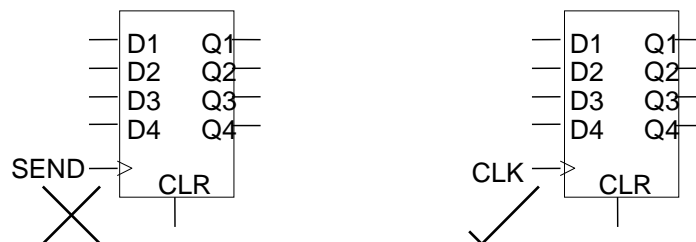

Figure 7: A clock pulse should be connected to the clock inputs of all the sequential devices.
3. Do **not** connect the inputs (DIP and push button switches) to the clock inputs of sequential devices. Clock inputs must be connected to the clock signal only (Fig. 7).